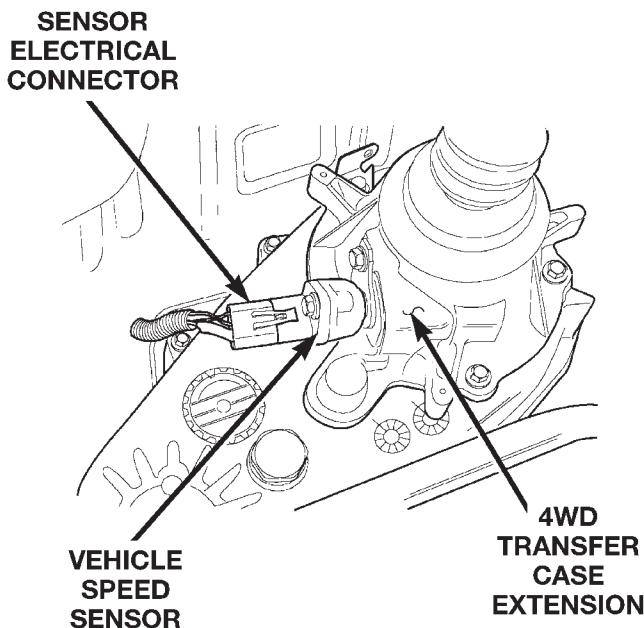

Fig. 25 Vehicle Speed Sensor—Typical
(22) Inspect for pinched or leaking fuel tubes. Inspect for pinched, cracked or leaking fuel hoses.
(23) Inspect for exhaust system restrictions such as pinched exhaust pipes, collapsed muffler or plugged catalytic convertor.
(24) If equipped with automatic transmission, verify that electrical harness is firmly connected to park/neutral switch. Refer to Automatic Transmission section of Group 21.
(25) Verify that electrical harness connector is firmly connected to the vehicle speed sensor (Fig. 25).
(26) Verify that fuel pump/gauge sender unit wire connector is firmly connected to harness connector.